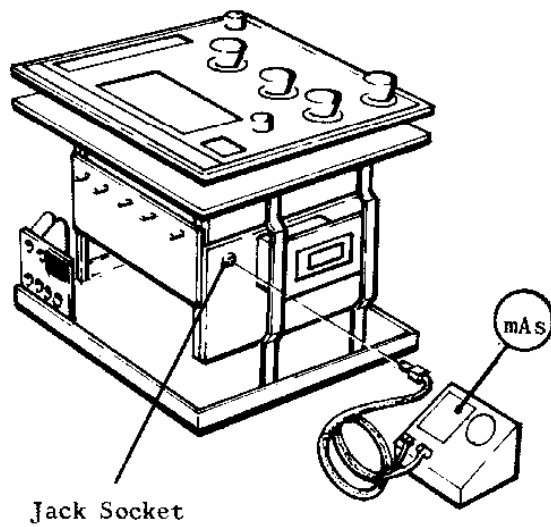

Fig 27 Connect External mA s meter
19.    CONNECTING EXTERNAL mAs METER.    Fig 27
Fit mAs meter jack into socket indicated in Fig 27.